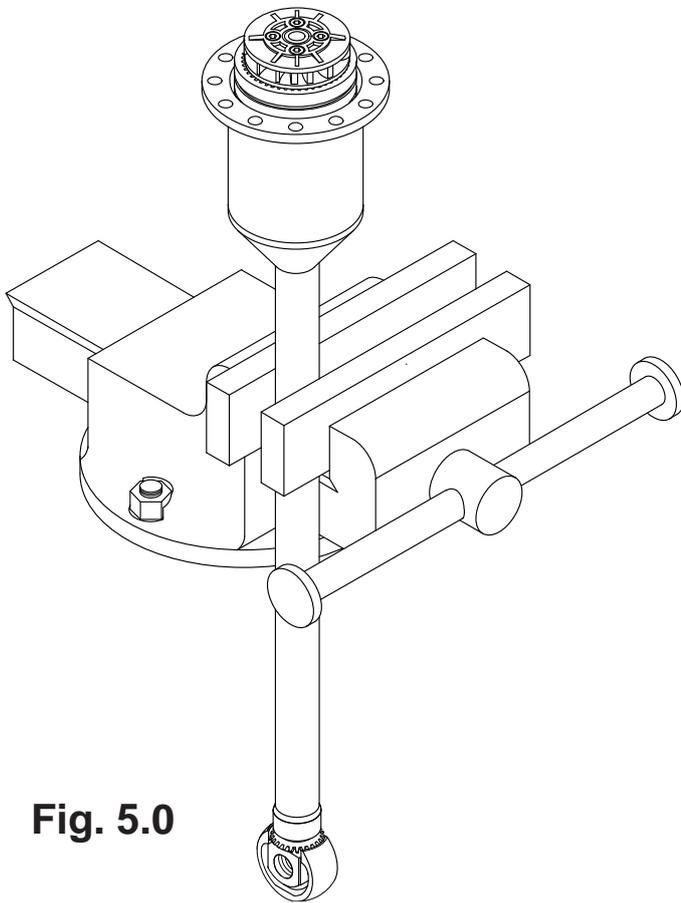

Fig. 5.0
5.01) Once you have disassembled the head, as explained in **chapter 02** (from section 2.01 to section 2.03) and **chapter 04** (from section 4.01 to section 4.02 Fig.5.0), take all the parts out as in **fig.5.1**